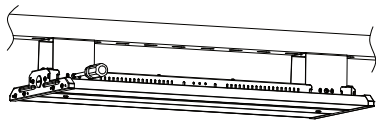
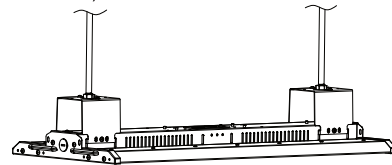

Figure 6
Figure 7
- Step2. Mount bolt on the rail or ceiling, and mount the fixture bracket on the bolt (Figure 6); and then install the fixture. (Figure 7).